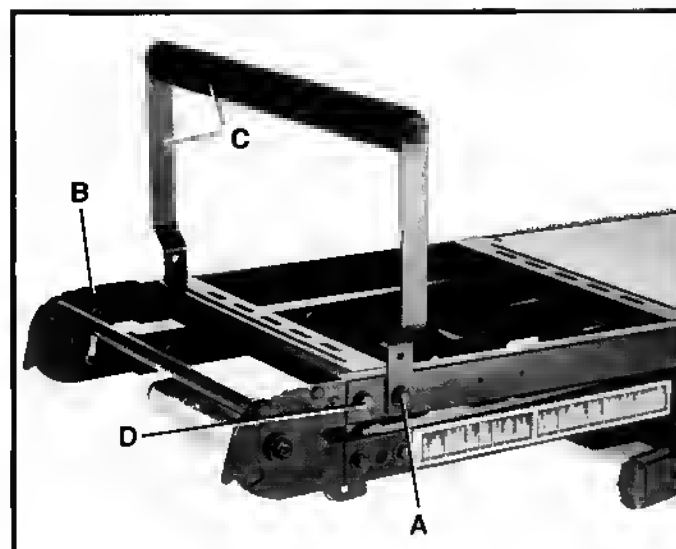

Fig. 5
2. Align end holes in handle assembly (C) Fig. 5, with threaded holes in saw stand (B) and loosely assemble handle to saw stand as shown with two screws, lockwashers, and flat washers (A), which were removed in **STEP 1**.
3. Remove screw, lockwasher, and flat washer (D) Fig. 5, from saw stand (B). Remove corresponding screw, lockwasher, and flat washer from the other side of saw stand (B). **NOTE:** Hardware will be used again.